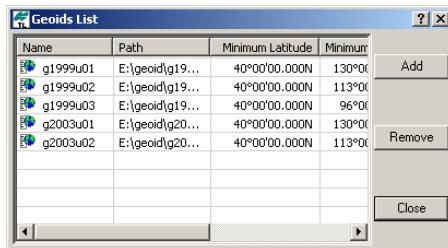

Figure 3-97. Geoids List
4. Click **Close** (Figure 3-97).